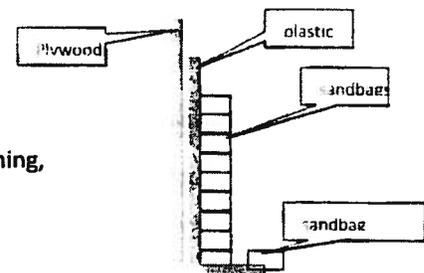

figure 1
- Stack your sandbags against wall. Stagger your sandbags with top of bag pointing in direction of the next bag your stacking to lock in place. (see fig 1)